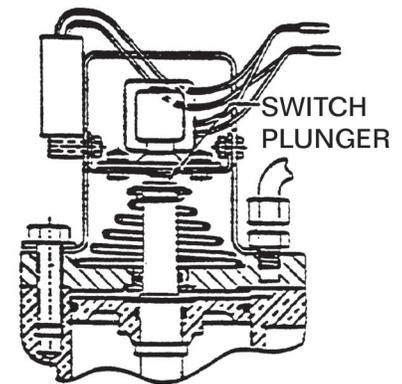

FIGURE 5
4. Attach the switch/flasher bracket to the PG30 relief valve cover as shown in **Figure 5**. This is done by removing two of the cover capscrews opposite each other. Reinstall the capscrews and washers securing the switch bracket as shown. Adjust the bolts in the side of the bracket until the switch plunger is depressed in the normal position shown. Tighten all bolts securely.